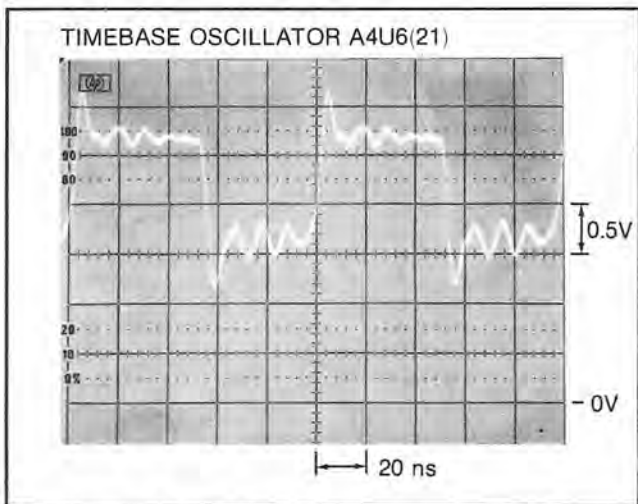

Figure 8-82. 10 MHz Timebase Oscillator Signal
a. To verify the proper operation of the 10 MHz time base oscillator (Y1) on the Main Logic Assembly (A4), and the associated circuitry, check for the presence of the 10 MHz signal at Test Point marked "CLK" [same as A4U6(21)], and compare with the typical waveform in *Figure 8-82*.